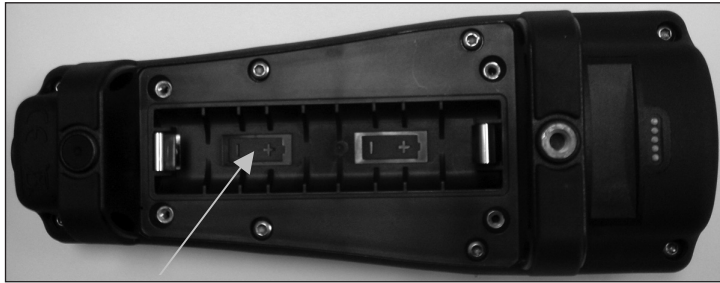

Figure 1. Pro2030 with battery cover removed. Notice battery symbols indicating polarities.
4. Install the new batteries, ensuring correct polarity alignment (figure 1).